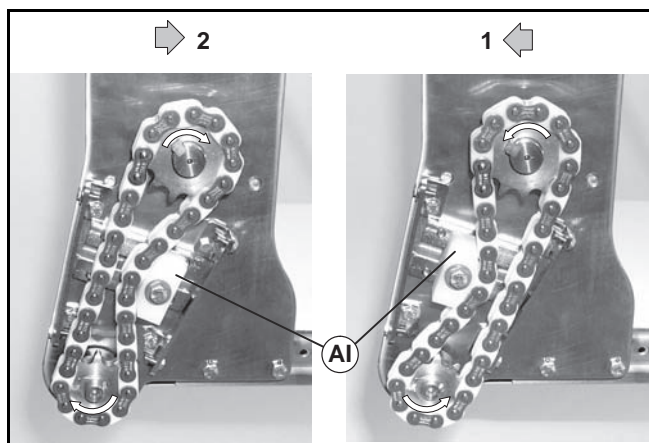

Figure 12
5. Depending on conveyor belt travel (direction 1 or 2 of Figure 12), locate timing chain tensioner (AI) as shown. Do not tighten tensioner screw.